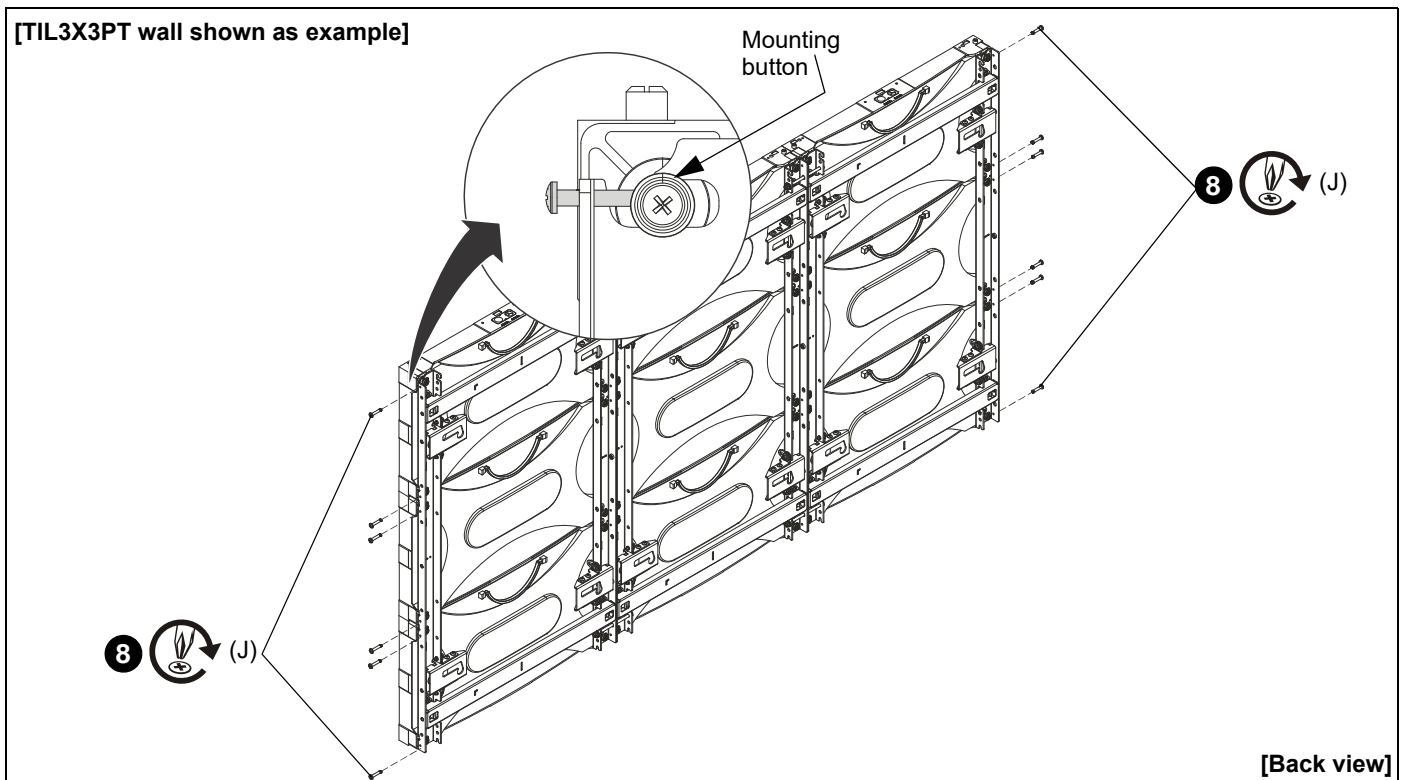

Figure 17
8. **OPTIONAL:** Install two 10-24 x 1" Phillips head cap screws (J) **per housing** on far right and far left column of mounts if housings need to be moved further left or right of center. (See Figure 17)